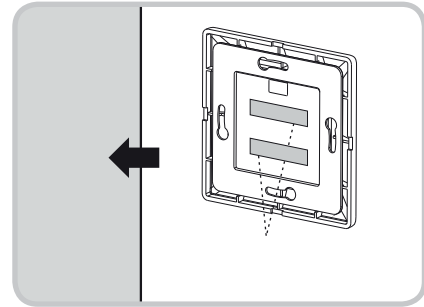

Fig. 6
- on a wall with double-sided tape (see Fig. 6).